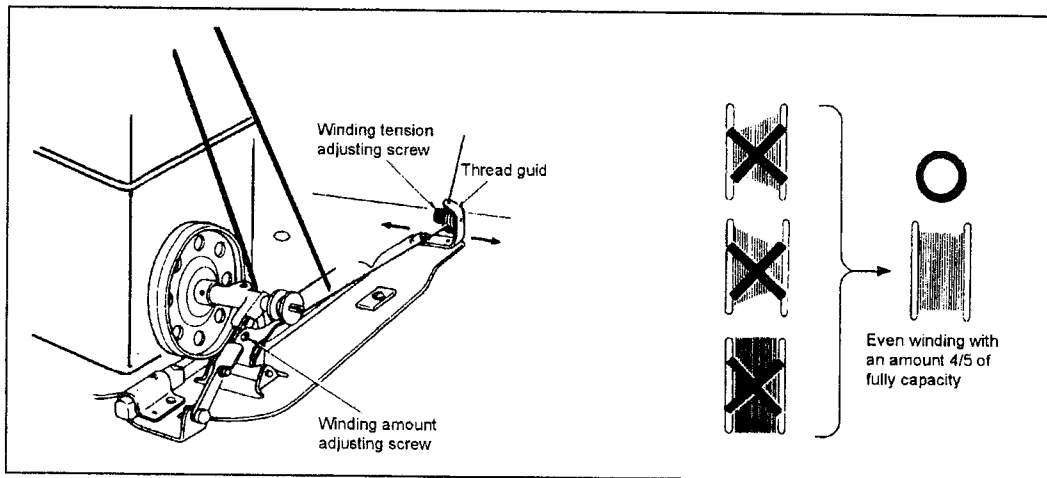

Fig.17
17、 How to wind the lower thread (Fig.17):